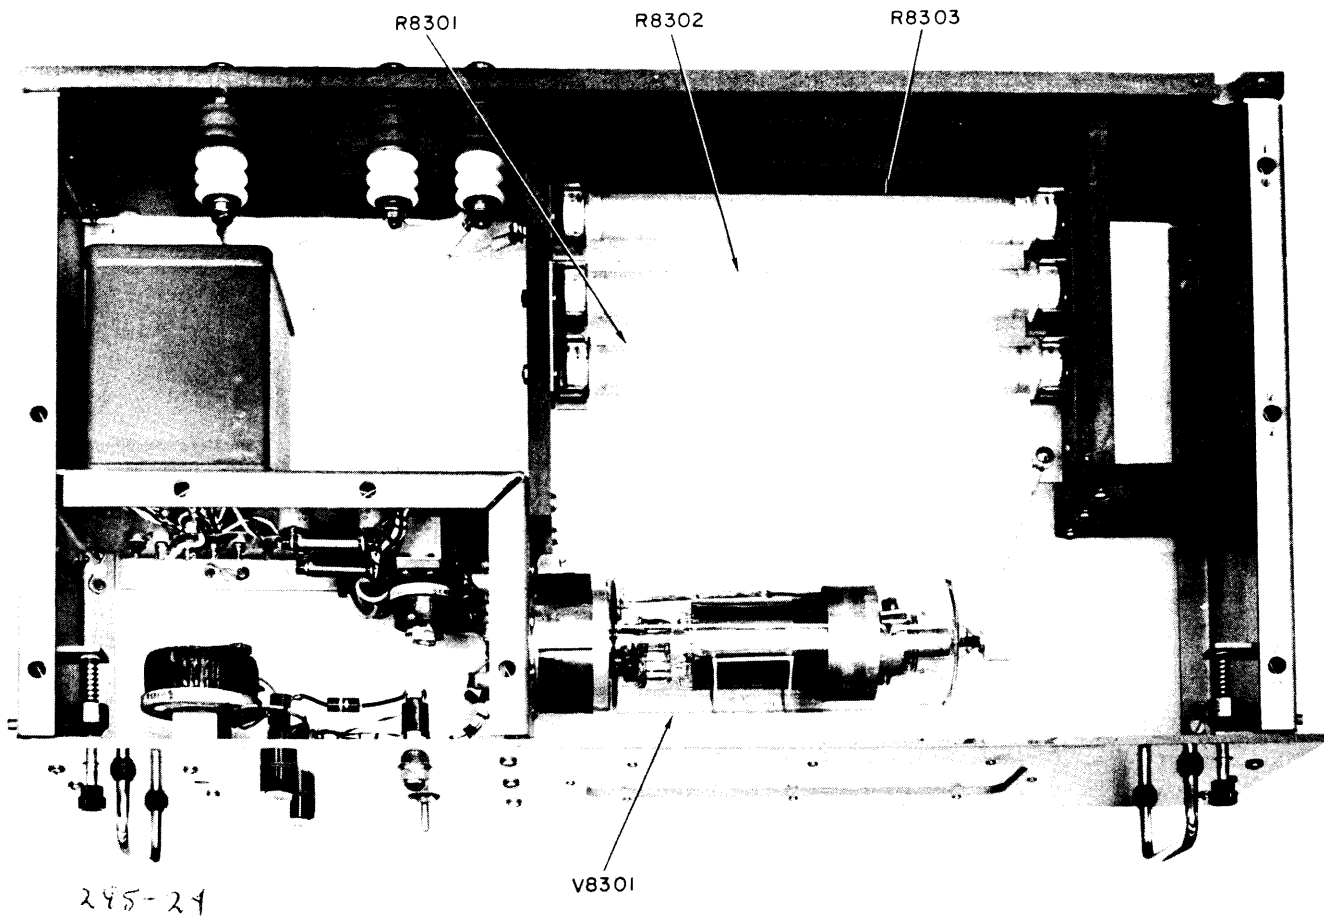

Figure 2-24. Crowbar Drawer 8300, Top View.
- c. Install the following components (contained in crate 2), figure 2-24, into the drawer: